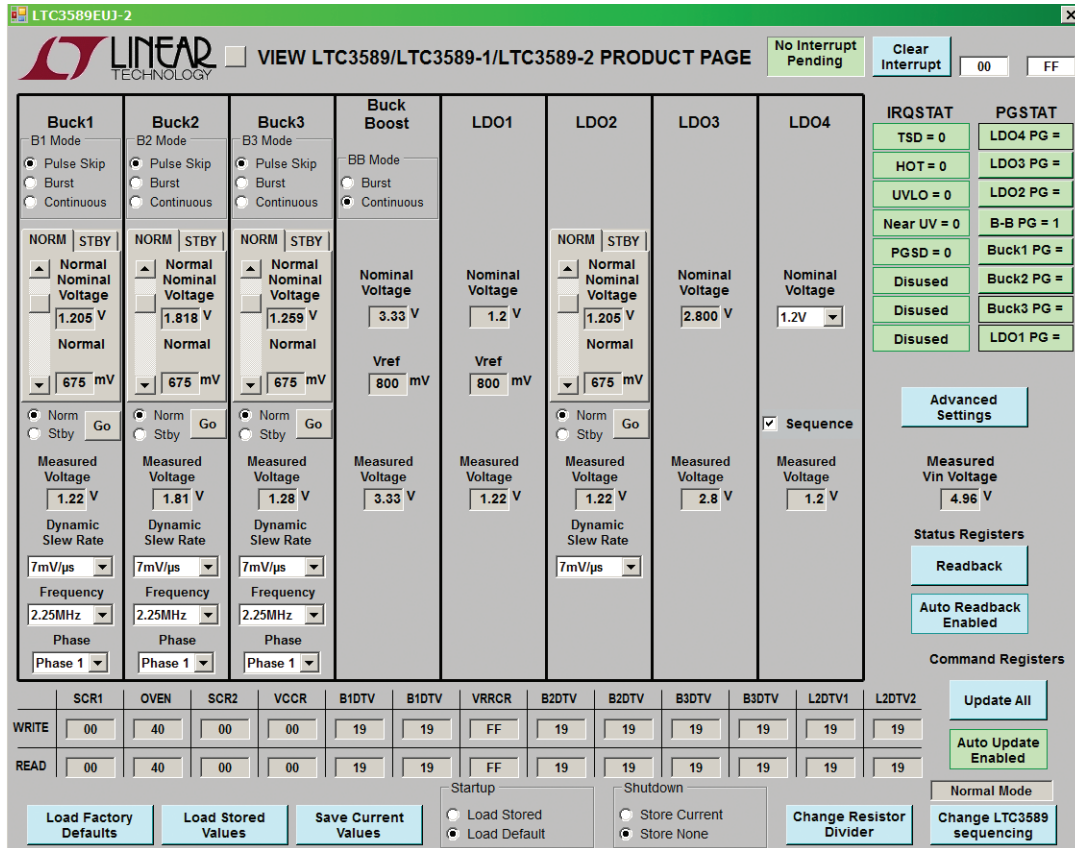

Figure 3. Main Form
2. Start the Linear Technology QuikEval™ program. This program should automatically detect the presence of the LTC3589EUJ-xdemo board (DC1808B-A/1808B-B) and activate the appropriate GUI, as seen in Figure 3. The GUI reads back the current voltages of the regulators. LDO1 should read 1.2V, and V_{IN} should read 5V; all others should be 0V.
3. Press the PB1 button on the DC1808B-A/1808B-B for more than 0.5s; all of the power supplies should come up and the displayed GUI page should match Figure 3. The sequencing for these supplies was set by Linear Technology, using resistor divider networks from the supply outputs to control the ENx lines.
- The LTC3589-1 (DC1808B-A) or LTC3589-2 (DC1808B-B) form (Figure 3) is brought up by the QuikEval program.